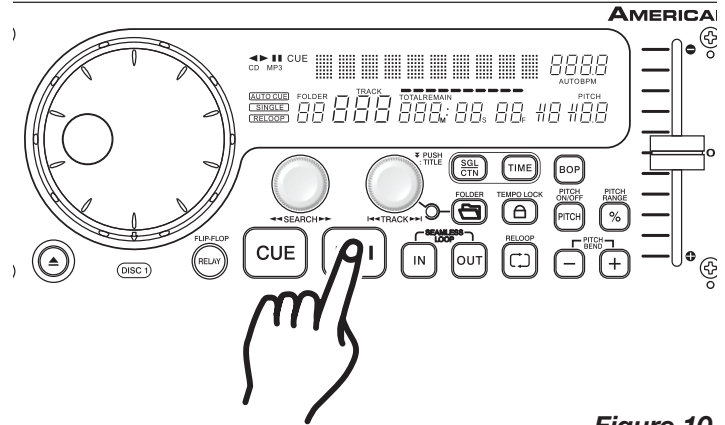
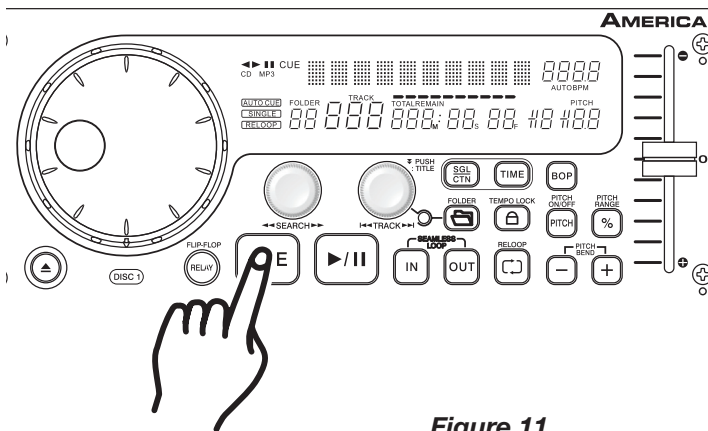
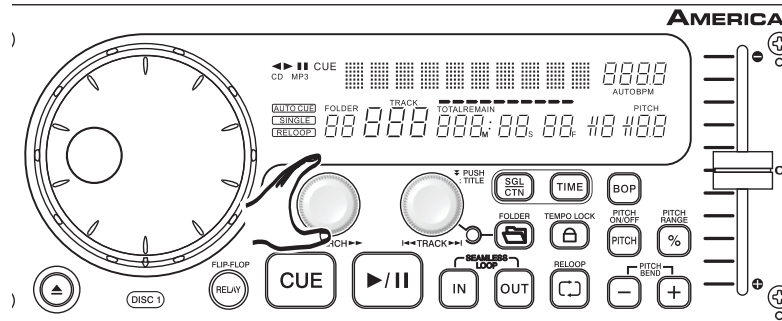

Figure 10
Figure 11
Figure 12
3. STARTING PLAYBACK - Figure 10
6. PAUSING - Figure 10
5. STOPPING PLAYBACK - Figures 10 & 11
This feature allows you to scroll through a track frame by frame, allowing you to find and set a starting cue or loop point. To use the scroll function you must first be in Pause Mode (see section 5) or Cue Mode (see section 8). Once you are in Pause or Cue mode, turn the *SEARCH KNOB* (4) to scroll through the track (Figure 12). Turning the knob in a clockwise direction will advance the frame search and turning the knob in a counter-clockwise direction rewinds the frame search. When you use the *SEARCH KNOB* (4) the monitor (headphone level) function allows you to here what you are scrolling through. Once you reach your desired starting point you can set a cue (starting) point by pressing the *PLAY/PAUSE BUTTON* (18) as in Figure 10. Pressing the *CUE BUTTON* (19) as in Figure 11 will now return you to the point you just set.